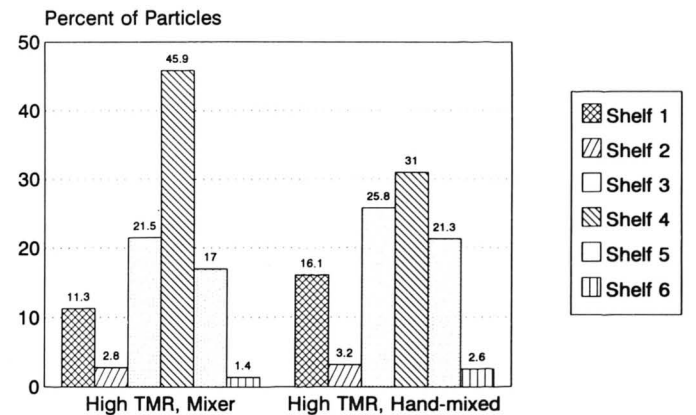

Figure 21. Particle Size Distribution S-V Farm, 8 February 96.
5. TMR Test Mix yielded results that impressed the husband and wife owners and feeder. Shaking the two TMRs, test mix and mixer mix, yielded 37% fewer particles over 1 inch (shelves 1 & 2) when the ration was mixed in the mixer! See Figure 21.